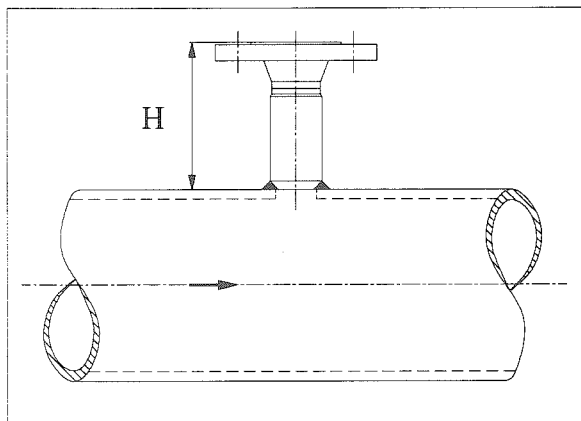

Fig. 9
It is particularly important to make sure that the distance from the gasket surface to the pipe agrees with H- dimension you gave in your order (see Fig. 9).
3. Observe the H- dimension during the welding of the mounting stud (see also Fig. 9).
(see also Fig. 9)